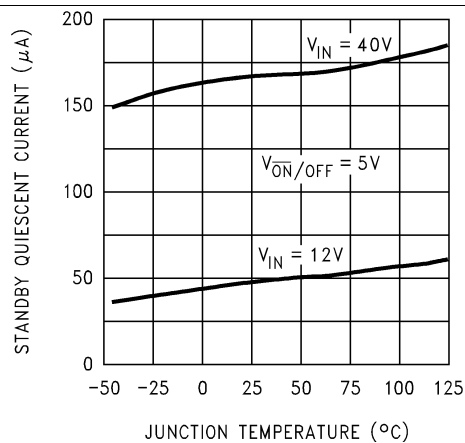

Figure 6. Standby Quiescent Current
- (1) All limits specified at room temperature TYP and MAX. All room temperature limits are 100% production tested. All limits at temperature extremes are specified through correlation using standard Statistical Quality Control (SQC) methods. All limits are used to calculate Average Outgoing Quality Level.
- (2) The oscillator frequency reduces to approximately 18 kHz in the event of an output short or an overload which causes the regulated output voltage to drop approximately 40% from the nominal output voltage. This self protection feature lowers the average power dissipation of the IC by lowering the minimum duty cycle from 5% down to approximately 2% (see Figure 6).
- (3) Output pin sourcing current. No diode, inductor or capacitor connected to output pin.
- (4) Feedback pin removed from output and connected to 0 V.
- (5) Feedback pin removed from output and connected to 12 V for the adjustable, 3.3-V, and 5-V versions, and 25 V for the 12-V and 15-V versions, to force the output transistor OFF.
- (6)  $V_{IN} = 40\text{ V}$  (60 V for high voltage version).